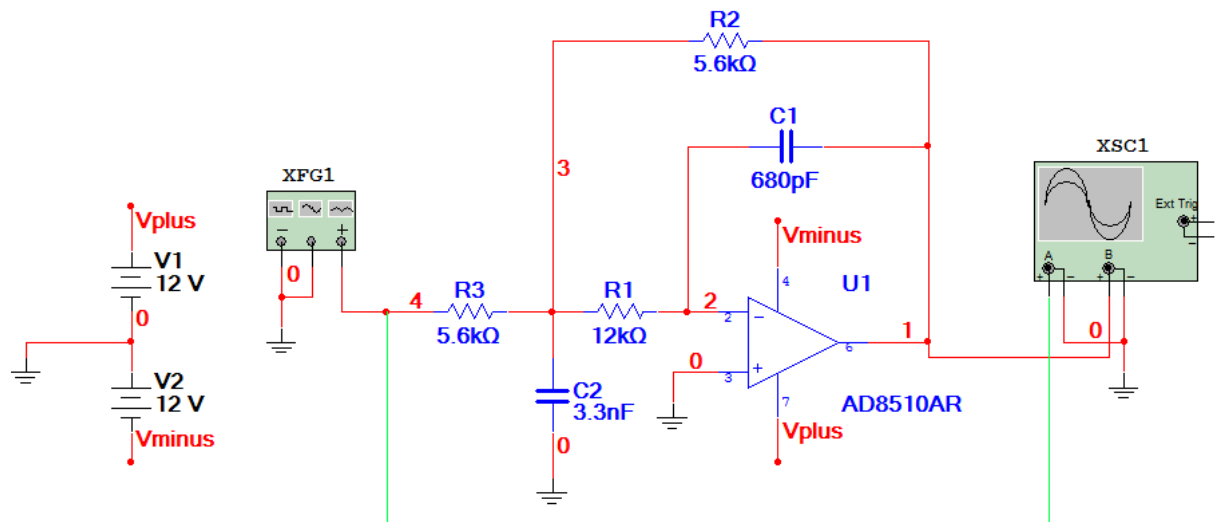

Fig.1. Example of active filter with attached power sources and the generator and the oscilloscope.
- connect the power supply for operational amplifier (example in Fig.1).